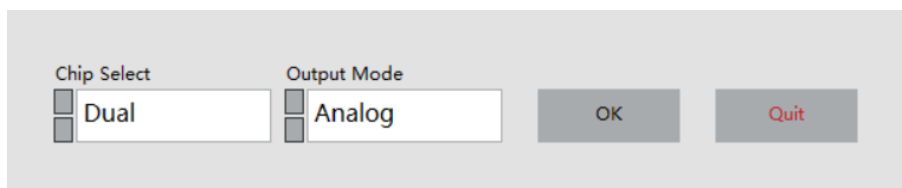
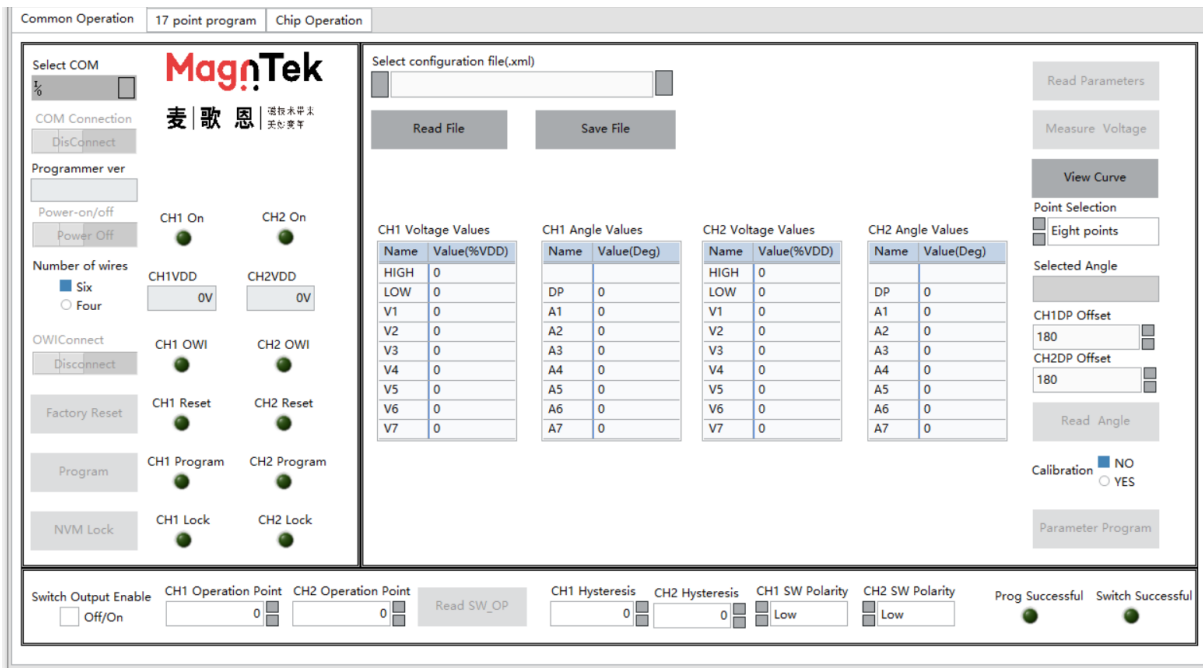

Figure 5.3.1 Chip mode selection
Figure 5.3.2 Dual chip analog output parameter configuration
- 3、 Double click on the "PB600-MT652xGUI. exe" file, open the software, and a chip mode selection interface will pop up (Figure 5.3.1). After selecting the "Dual" and "Analog" parameters, click "OK" to enter the programming interface for this mode (Figure 5.3.2).